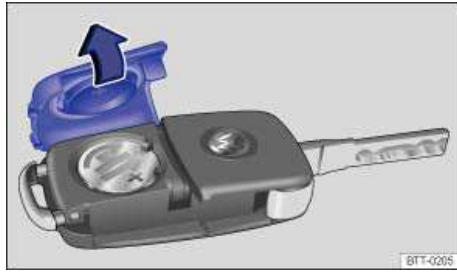

Fig. 22 Remote control vehicle key: Open battery compartment cover.
The battery is on the back of the remote control vehicle key under a cover ⇒ fig. 22.
- Position the cover as shown ⇒ fig. 22 and press it down (opposite to direction of the arrow) until you hear it click into place.